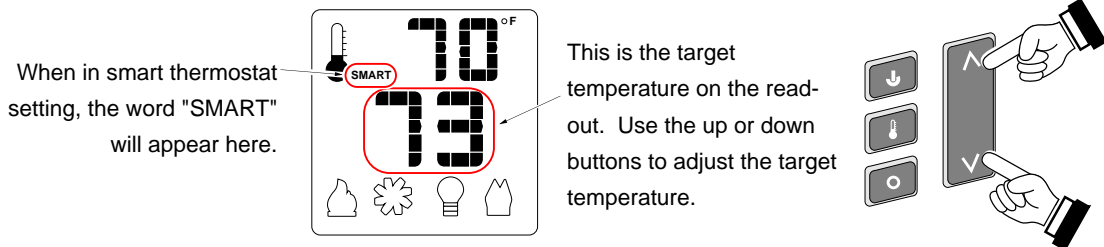

Figure 8
- SMART THERMOSTAT** – While in smart thermostat, the transmitter will control the burner to achieve the target temperature (see Figure 8 below). Flame height will be adjusted up or down to allow operation without turning the burner on and off (also called “smart modulation”). To adjust the target temperature, press the UP and DOWN buttons until a suitable temperature is achieved.